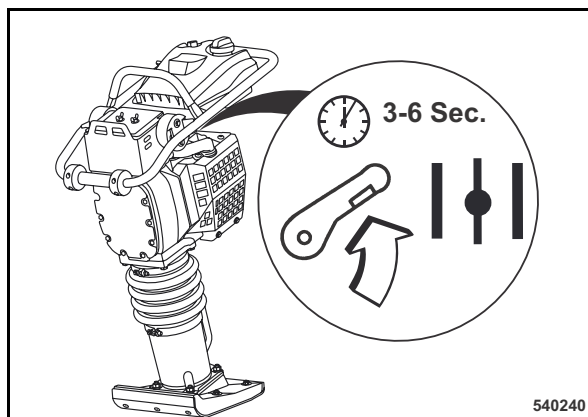

Fig. 17
- Open the choke (Fig. 17) 3 to 6 seconds after the engine has started running.